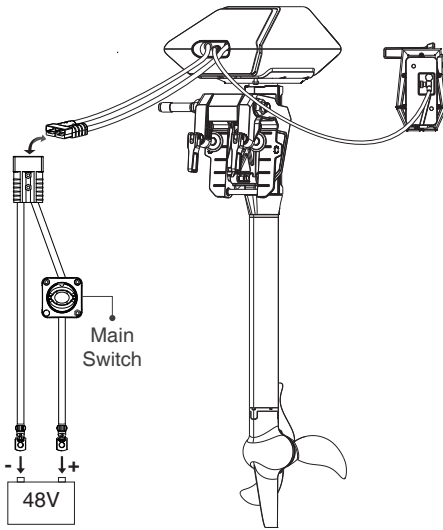
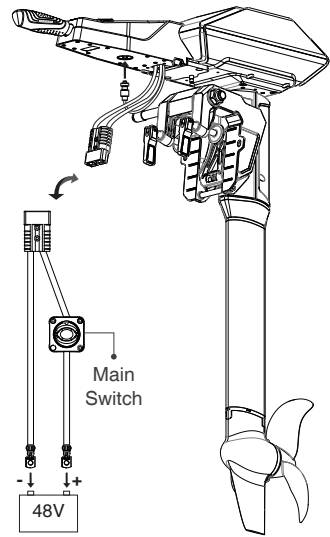

Figure 5-15
Figure 5-16
**However, if pairing fails, please try again with a communication cable: First connect the Remote Controller/Tiller Handle with the outboard motor by a communication cable. Please refer to Figure 5-15 and Figure 5-16. Ensure the communication cable is well connected. Then repeat the above 4 steps to set the address again.**